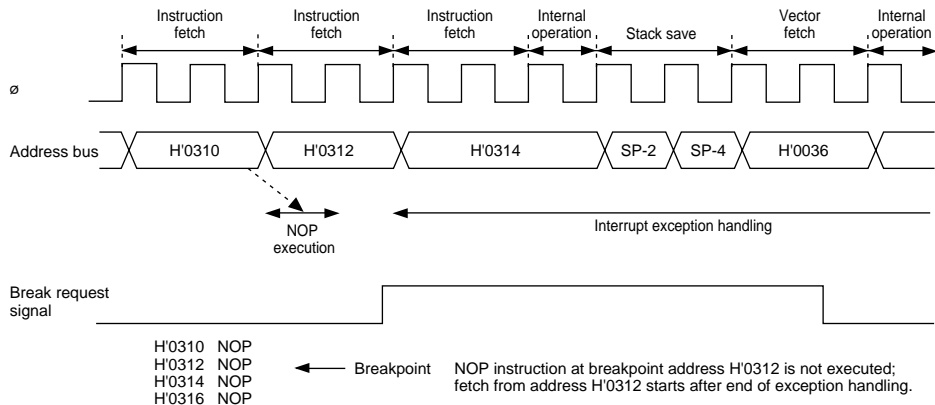

Figure 5.5 Examples of Address Break Timing www.DataSheet4U.com
- As an address break interrupt is generated by a combination of the internal prefetch signal and address, the timing of the start of interrupt exception handling depends on the content and execution cycle of the instruction at the set address and the preceding instruction. Figure 5.5 shows some address timing examples.